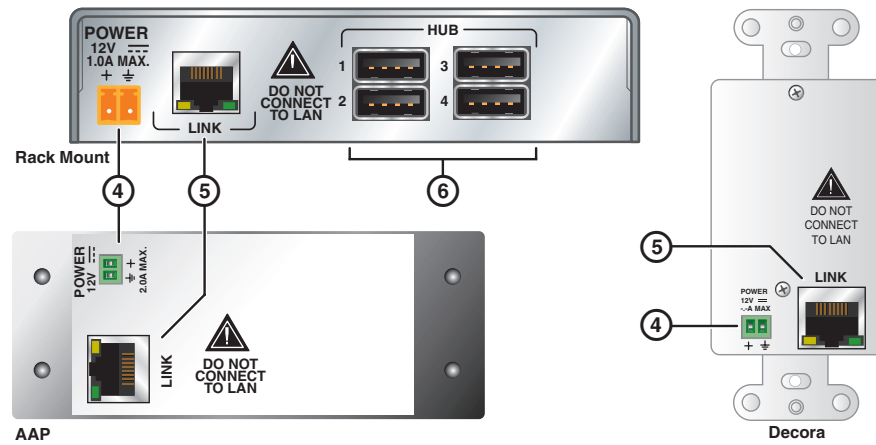

Figure 4. Receiver (Rx) Rear Panel Connectors
- ③ **Link (twisted pair) connector** — Connect the TP cable from the receiver Link connector (figure 4, item ⑤) to this RJ-45 female connector.
The Rx (receiver) rear panel (see figure 4) has a DC power input, twisted pair link connection and also has four female USB Type A hub connectors. AAP and Decora receivers have the hub connectors on the front panel.